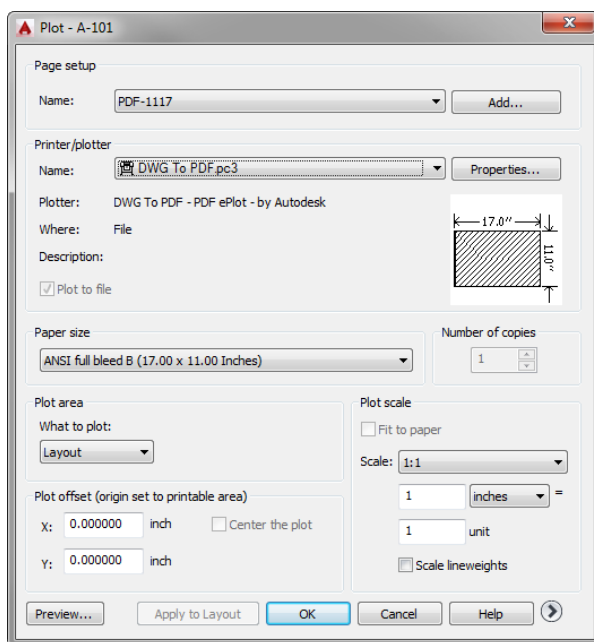

FIGURE 15.2: The simplified Plot dialog box
2. Click the Output tab, and then click the Plot button on the Plot panel to open the Plot dialog box shown in Figure 15.2.
3. If the Plot dialog box opened in its simplified format shown in Figure 15.2, expand it by clicking the More Options disclosure triangle button.